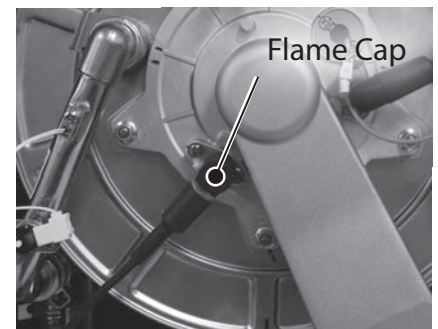

Figure 69 - Remove flame sensor cap
- 5 Locate the flame sensor on the burner assembly as shown in Figure 69. Remove the cap from the flame sensor. **DO NOT** pull on wires.